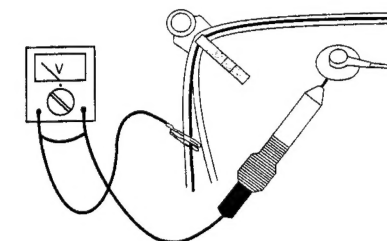

Fig.1
2. In order to prevent damage to ICs and transistors, all high-voltage flash-overs must be avoided. In order to prevent damage to the picture tube, the method shown in Fig. 1 should be used to discharge the picture tube. Use a high-voltage probe and a multimeter (position DC-V). Discharge until the meter reading is 0 V_U (after approximately 30 seconds).